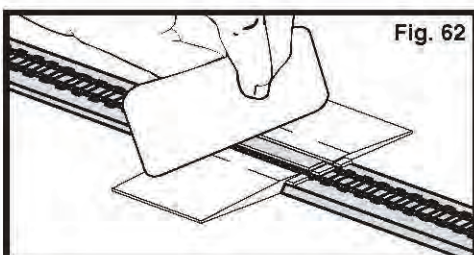

Fig. 62
5. Fill area between Paving Tape strips with Smooth-It. Use the Spreader to level Smooth-It even with top of rails and top of Inclines (**Fig. 62**). Carefully, wipe off excess Smooth-It from top of rails.